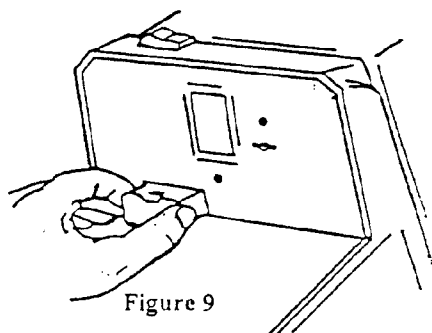

Figure 9
2. To replace condensate drain; hold drain against front panel under rectangular hold (opening in side of drain should be toward front panel). Push up through hole until drain snaps into place (see Fig. 9)